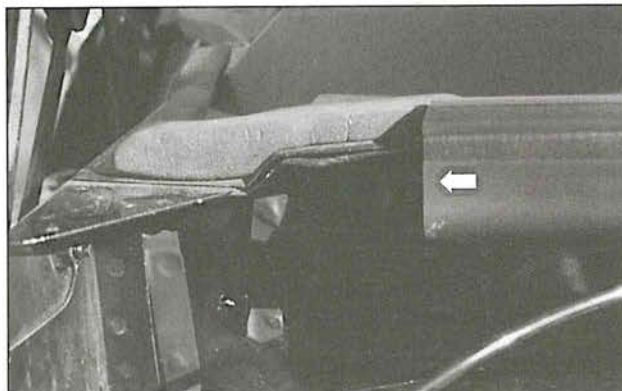

Fig. 5
- In the engine compartment, cut away about 8" of insulation from the upper right (passenger) side of the plenum (Fig. 5).